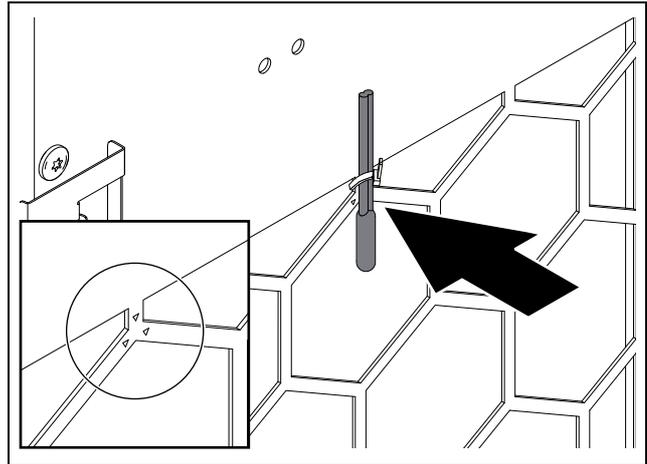

Fig. 52: Temperature sensor in front of cold air outlet (example illustration)
- Attach the temperature sensor to the marking in front of the cooling unit's cold air outlet using a cable tie (fig. 52).